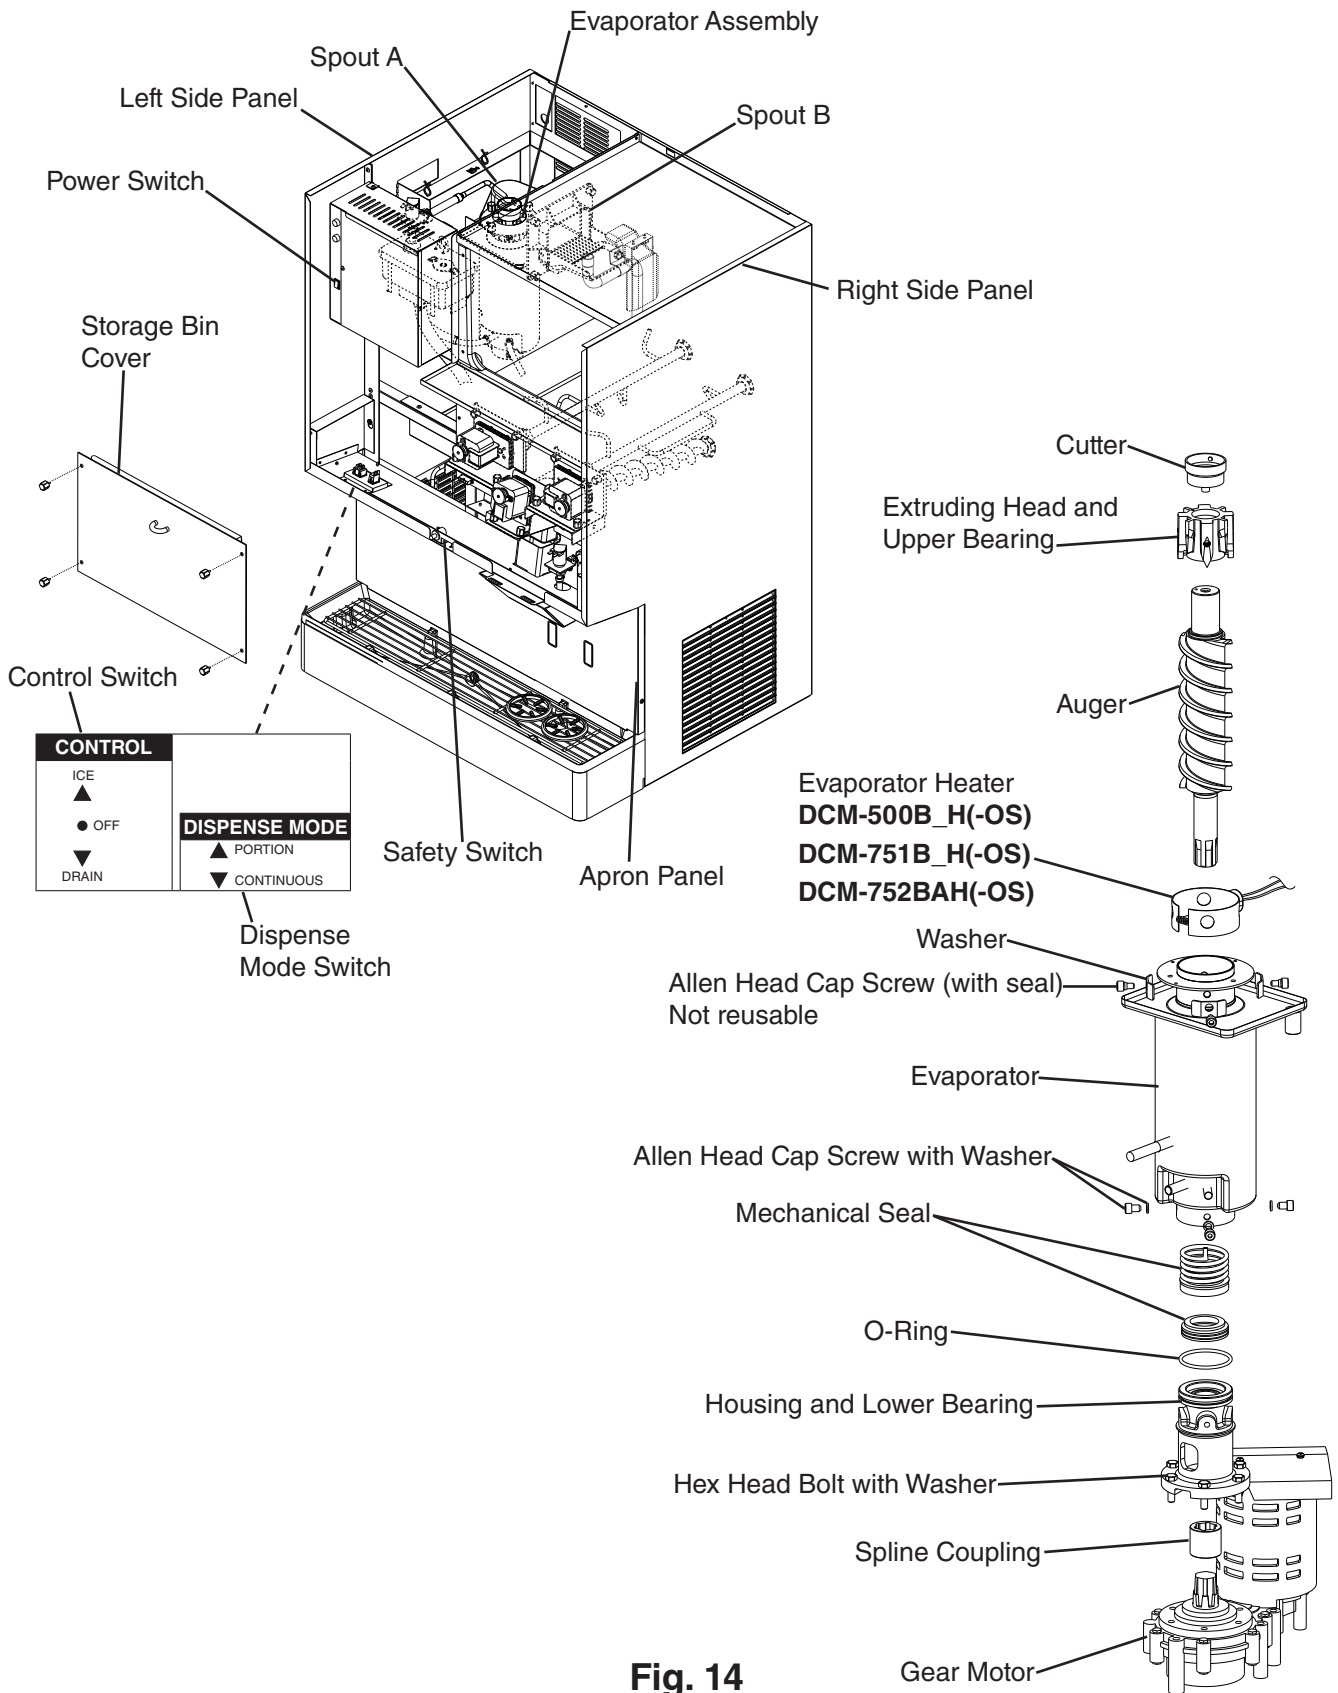

Fig. 14
- 2) Remove the storage bin cover. Remove spout B, then remove spout A and the cutter. See Fig. 14.
- 3) Remove the storage bin cover. Remove spout B, then remove spout A and the cutter. See Fig. 14. Remove the apron panel, then remove the left side panel.
- 3) Remove the storage bin cover. Remove spout B, then remove spout A. See Fig. 14. Remove the apron panel, then remove the left side panel.
- 5) Remove the storage bin cover. Remove spout B, then remove spout A. See Fig. 14.
- 3) Remove storage bin cover. Remove spout B, then remove spout A. See Fig. 14.
- 3) Remove the storage bin cover. Remove spout B, then remove spout A. See Fig. 14.